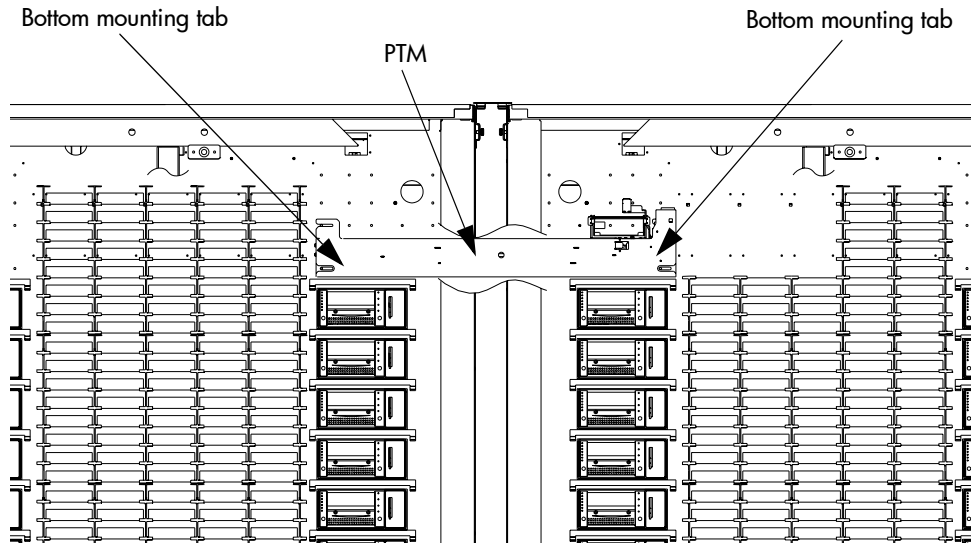

Figure 23: PTM installation (ESL9326 shown)
4. Holding the PTM right side up, slide it through the right library pass through cut-out and into the left library (see Figure 23).
6. Install the two 10-32 x 5/8 screws with #10 washers on the bottom mounting tabs of the PTM, one in each library (see Figure 23).